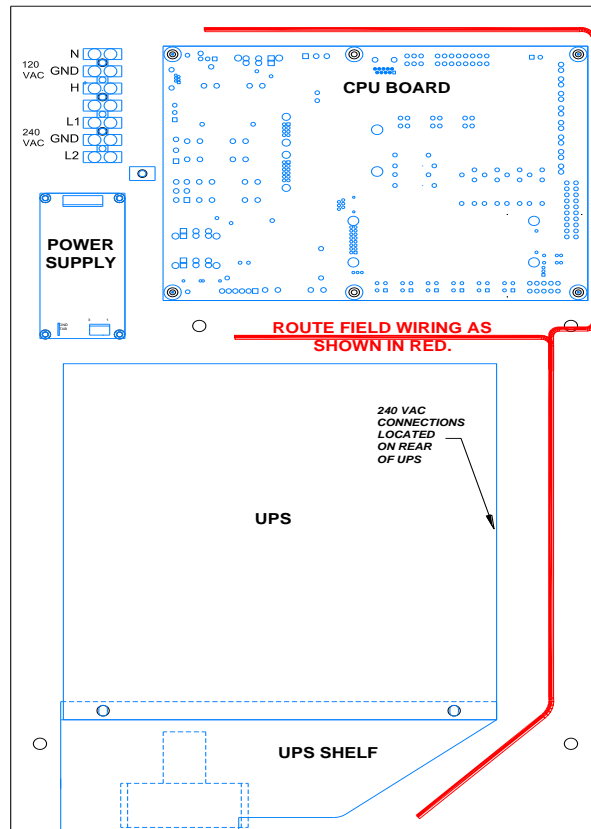

Figure 9 - CPU Enclosure Field Wiring
2. Route the wires up the right side of the enclosure as shown in Figure 9.